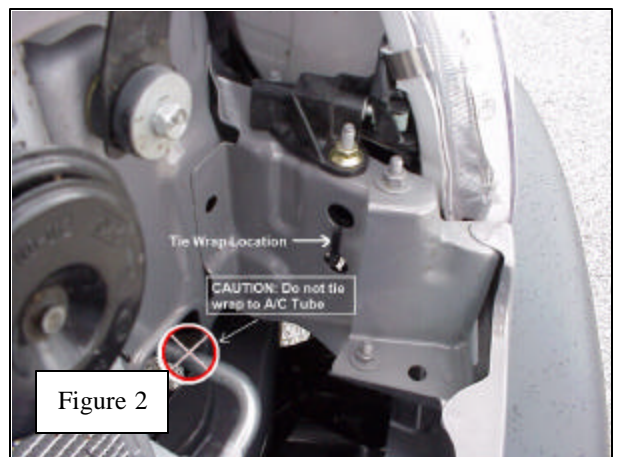

Figure 2
- ➔ 4. Tie wrap wires in engine compartment on drivers side as shown. **(Figures 2 ,3 & 4)**